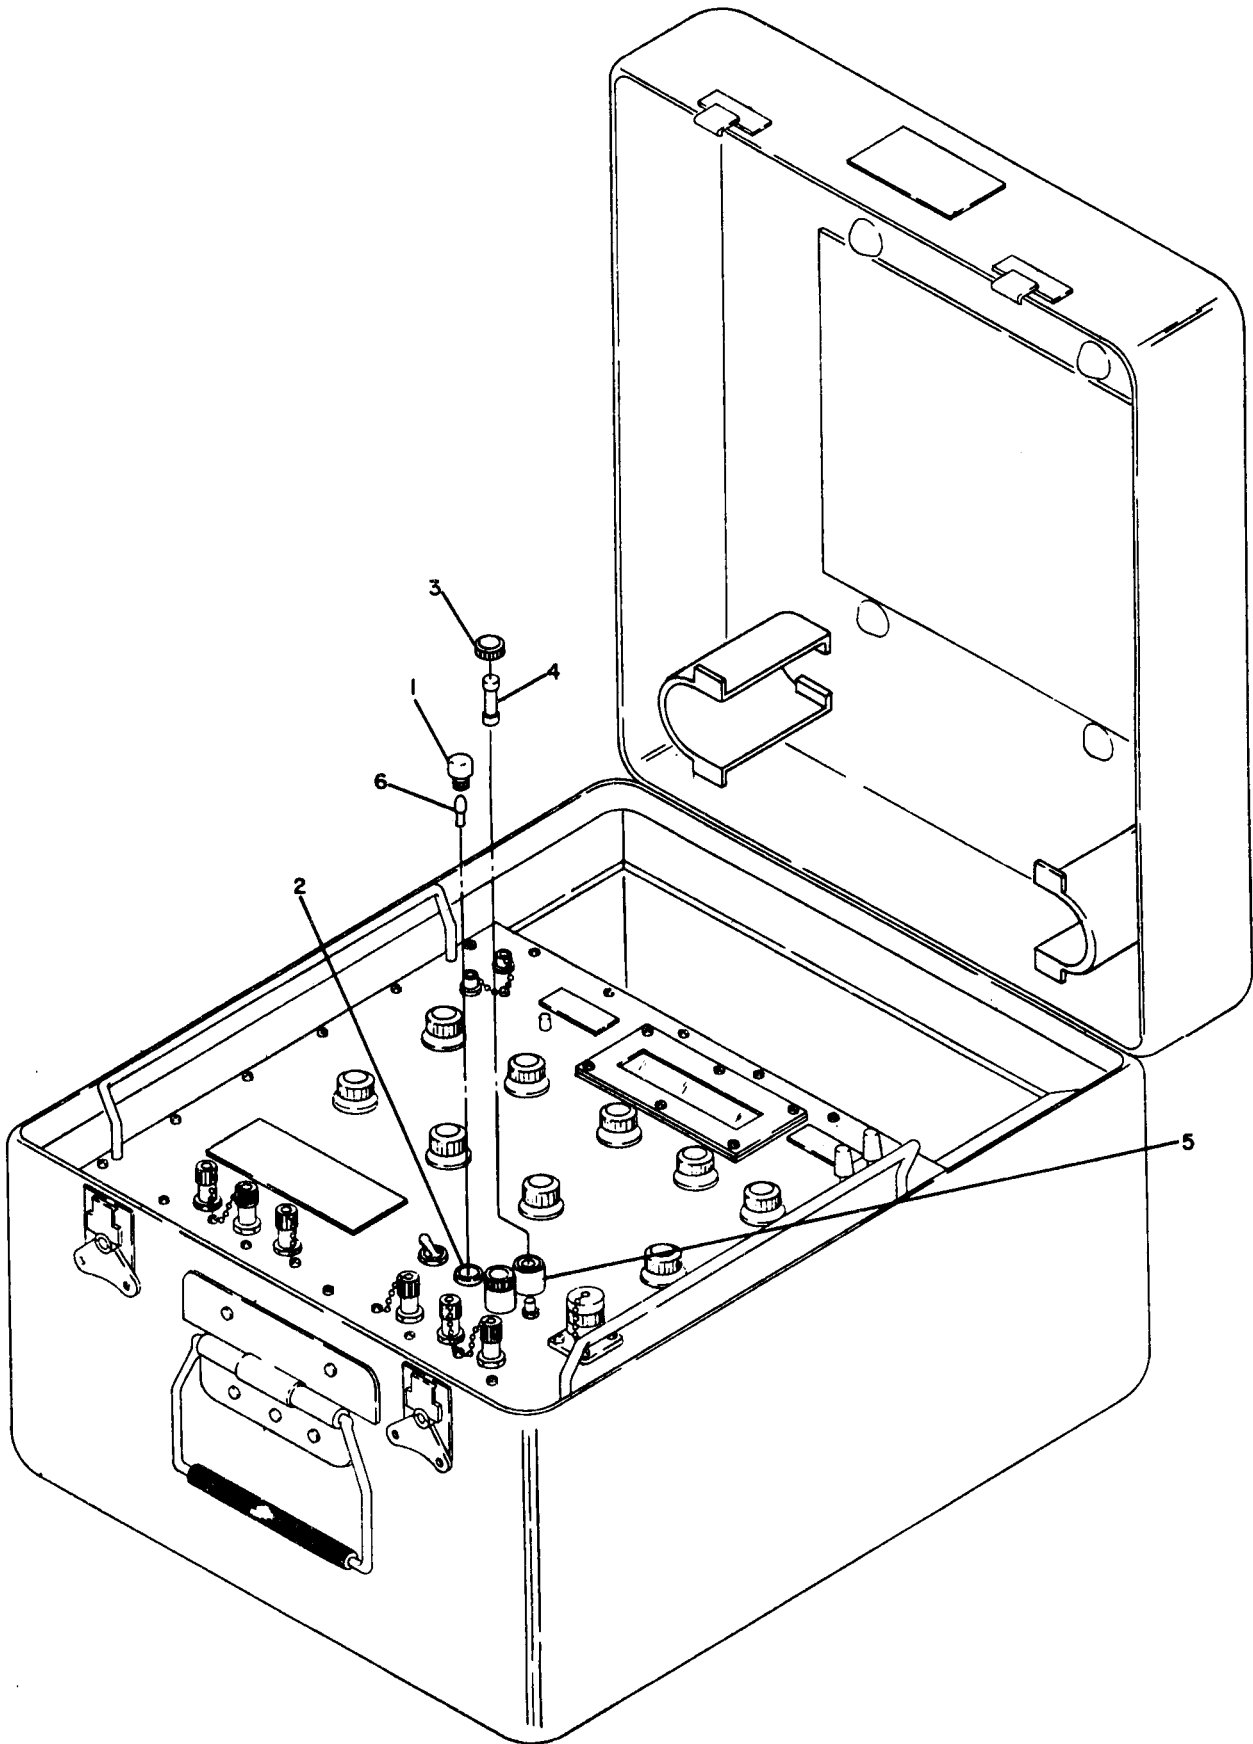

Figure 3-2. Removal and replacement of parts authorized at unit level 3-12
a. Power Indicator Lamp. The lampholder cap (1, figure 3-2) must be removed to gain access to lamp (6). Remove lampholder cap (1) from indicator socket (2) by unscrewing lampholder cap (1) counterclockwise and pulling from socket (2). Extract lamp (6) from lampholder cap (1).
b. Fuse. The fuseholder cap (3, figure 3-2) must be removed to gain access to fuse (4). Remove fuseholder cap (3) from fuseholder (5) by pressing cap down, rotating cap one-quarter turn counterclockwise, and pulling the cap and fuse (4) from fuseholder (5). Extract fuse (4) from fuseholder cap (3).